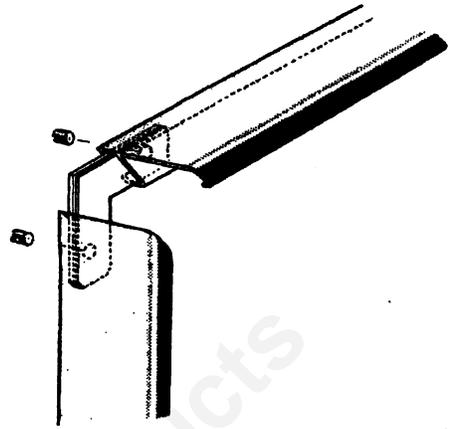

Figure 12b Corner Bracket
4. Assemble the faceplate trim, attaching the mitred corners with the corner brackets (see Figure 12b).